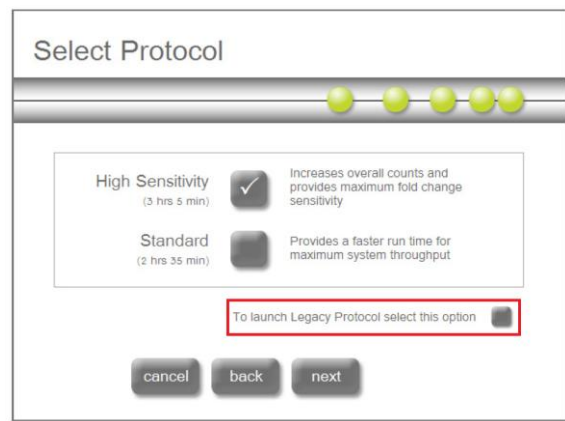

Figure 124: ‘Select Protocol’ screen
4. Once you get to the sample designation screen, process all twelve ‘blank’ samples, and make sure to check the box to launch the Legacy Protocol (**Figure 124**).